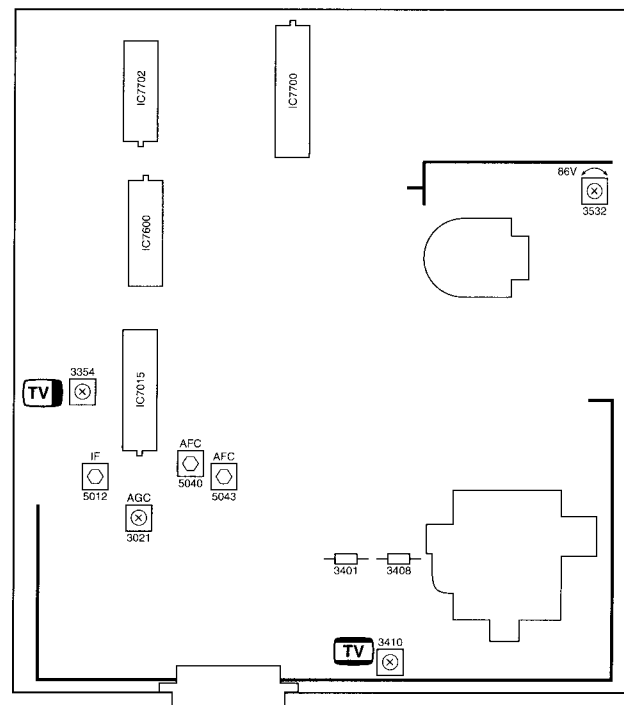

Fig. 7.1
1. Adjustments on the main panel (Fig. 7.1)